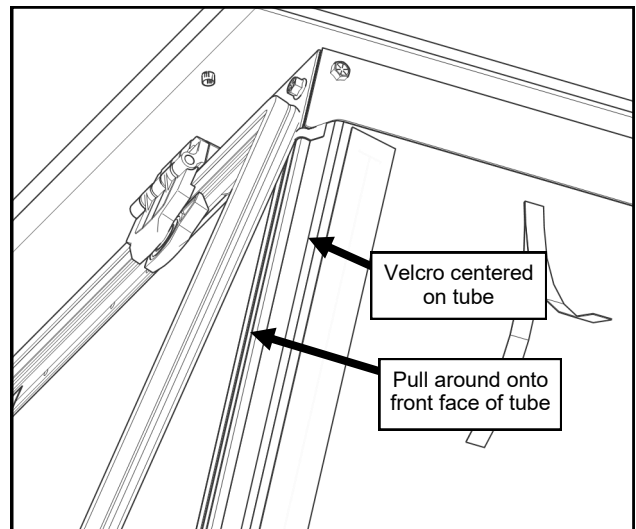

Fig. 29.3 (Align Door Curtain to A-pillar)
29.3 See fig. 29.3. Open the windshield latches to vent the windshield. Pull the curtain to the outside of the A-pillar tube with the inner Velcro strip centered on the tube, and the front flange of the curtain centered between the windshield support and cowl.